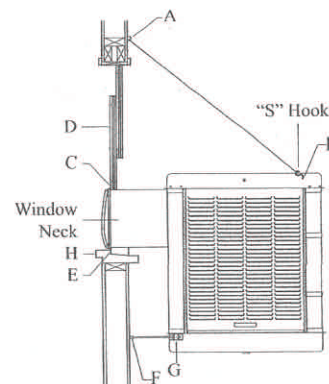

Fig. 2
- **NOTE: If installing unit without the use of the installation kit, omit these directions and those pertaining to Fig. 2.**
- **Screw chain hooks into window facing.** Position the two chain hooks above the neck of the cooler a distance equal to the width of the cooler apart (A-Fig. 2). Hook one hanger chain in each hook and then one "S" hook in the other end of each chain.
- **Position cooler in window.** Position neck of cooler so that bottom of neck flange rests on window sill and flange (E-Fig. 2) is snug against edge of sill (H-Fig. 2). With cooler in position, hook the "S" hooks into the holes of the top pan near the back of the cooler (B-Fig. 2).
- **Place window behind retainer strip.** Raise back of cooler so that the window (D-Fig. 2) may be brought down behind top of panel retainer strip (C-Fig. 2).
- **Adjust house legs.** Pull out house legs so that the rubber bumpers rest against house siding (F-Fig. 2). Tighten screw in retaining collar. (G-Fig. 2).